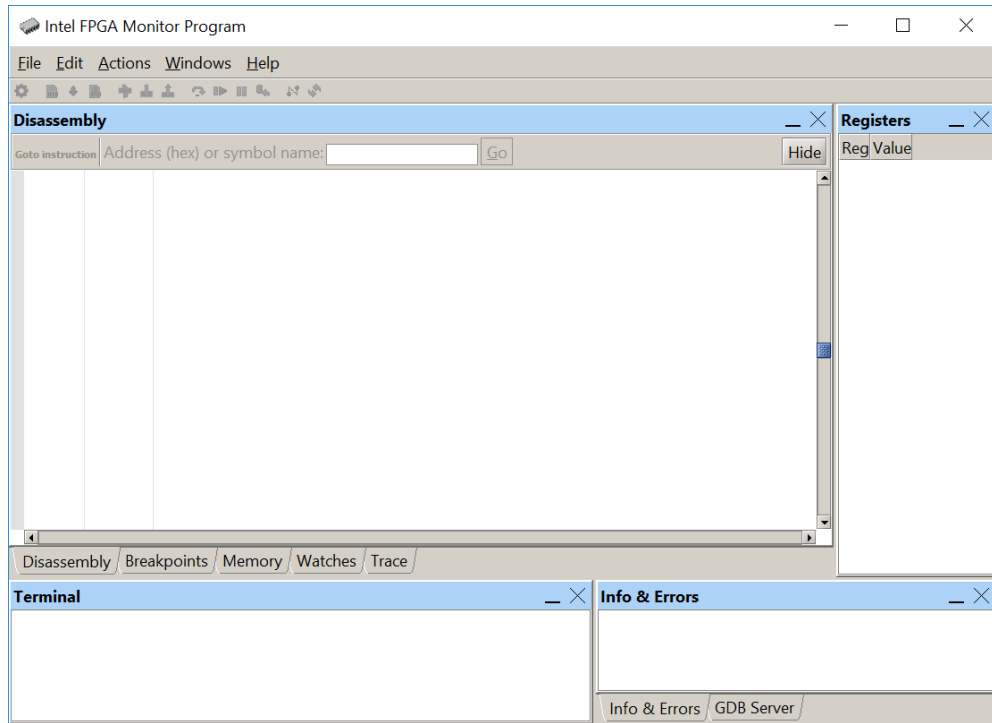

Figure 1: The A Monitor Program window.
2. Open the A Monitor Program software, which leads to the window in Figure 1.